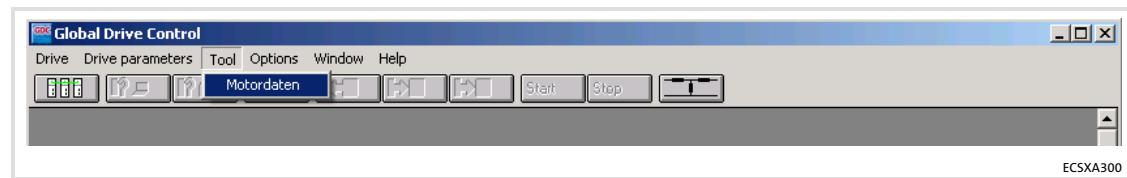

Fig. 6-2 GDC view: menu bar and tool bar
1. Go to the GDC menu bar and select the **Tool→ Motor data** menu item or click the button with the voltage divider symbol in the tool bar (rightmost in Fig. 6-2):